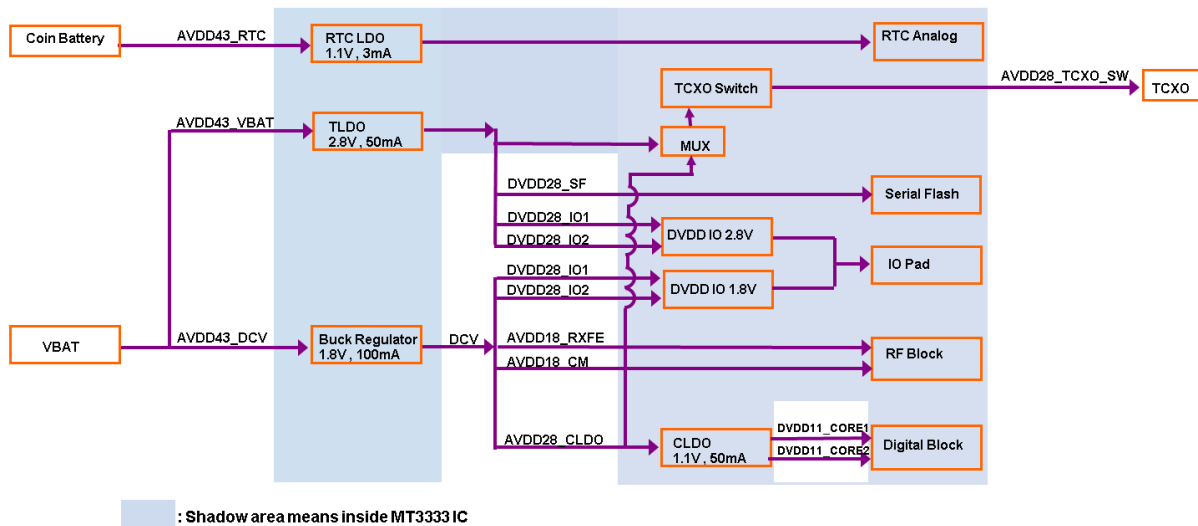
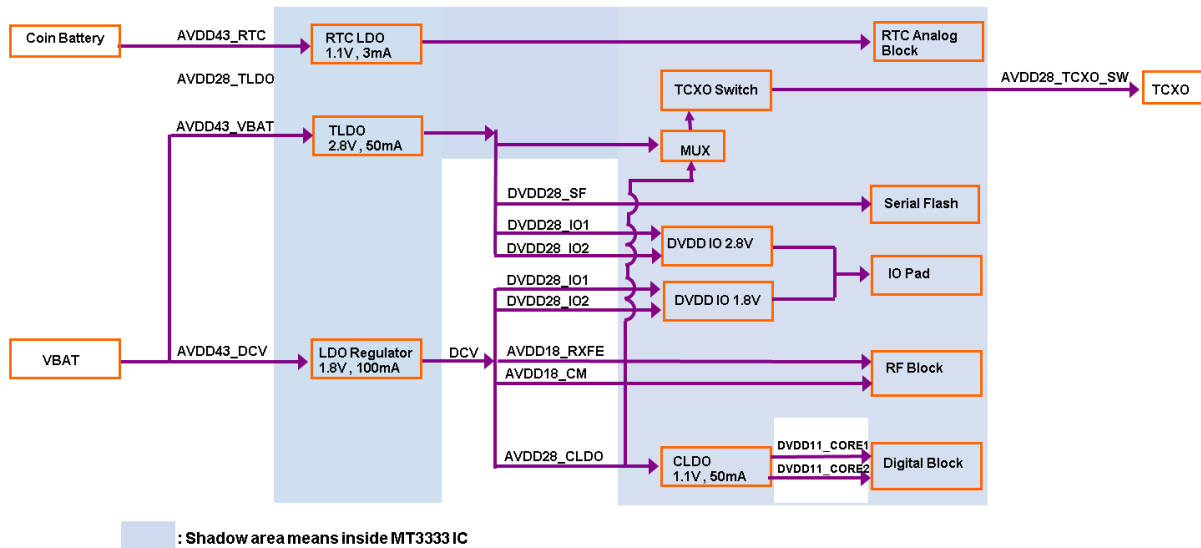
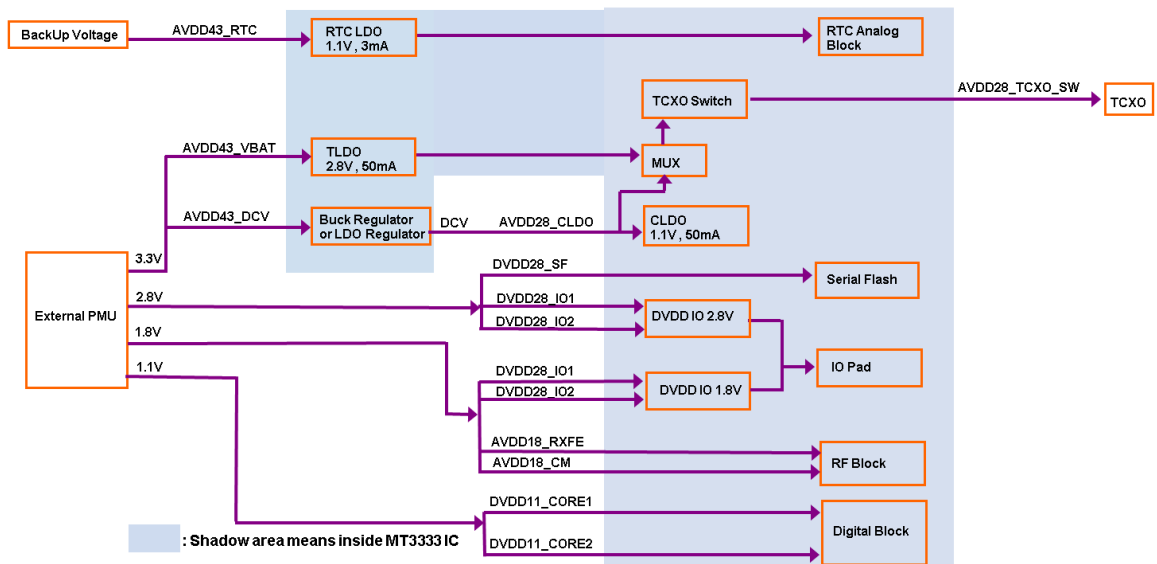

Figure 5-3: Power supply connection (low power)
Figure 5-4: Power supply connection (low cost)
Figure 5-5: Power supply connection (external LDO)
- Here are 3 power schemes: low power (Figure 5-3), low cost (Figure 5-4) and external PMU (Figure 5-5).